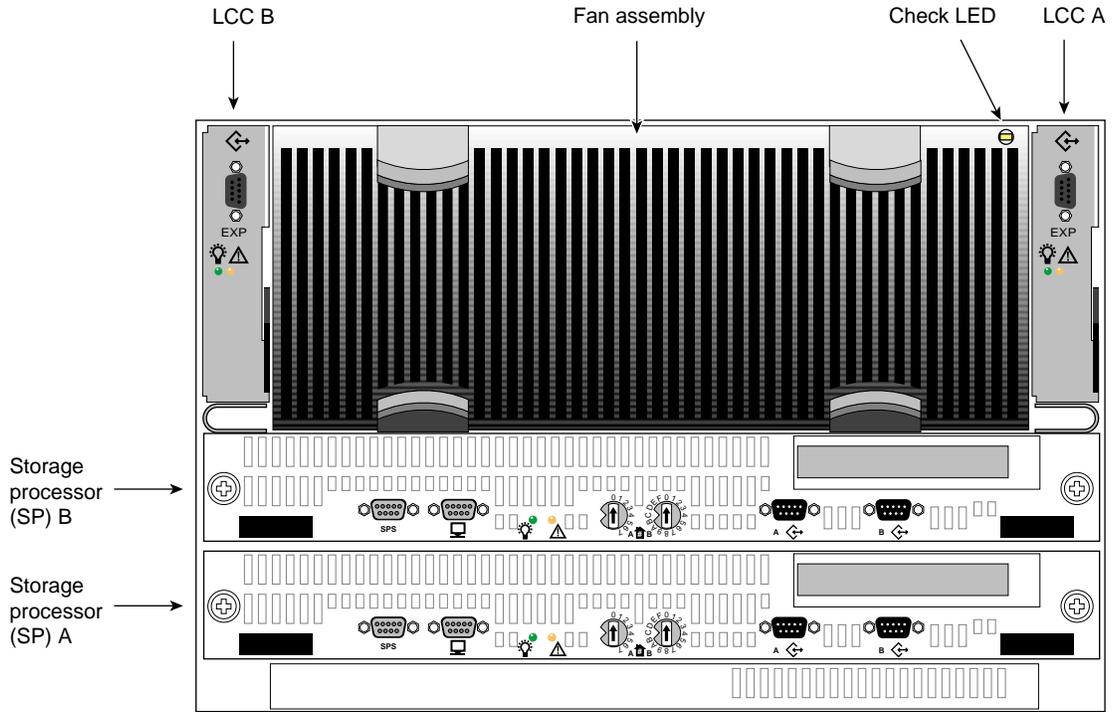

Figure 4-4 Fibre Channel RAID Enclosure Rear View
The fibre channel RAID enclosure address the loop sees is determined and set on the system processor (SP) board (see Figure 4-4 for the location of each SP). Each SP must have a unique fibre channel front-end address. Table 4-2 shows the maximum disk numbering for FibreVault (fibre channel RAID is lower).